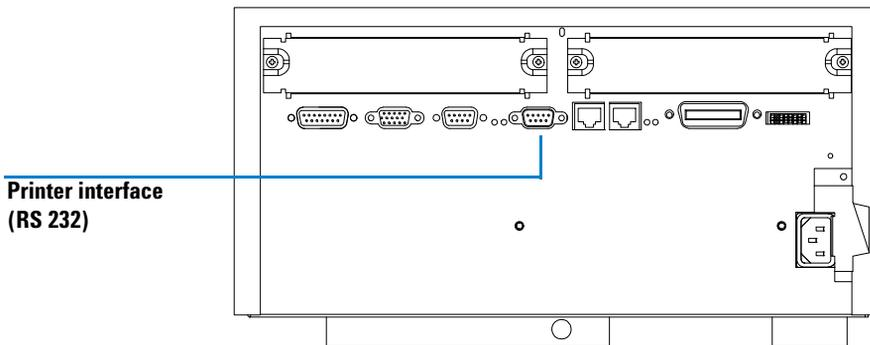

Figure 4 Connecting the Printer Cable to the Agilent 8453 Spectrophotometer
- ✓ Connect the printer cable with the serial end (9 Pins) to the RS 232 interface of the Agilent 8453 spectrophotometer and with the parallel end (centronics interface) to the printer. See Figure 4.